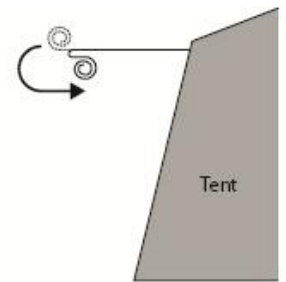

Fig. 2
- Once all guylines and webbing are away neatly, flip the already rolled section to the underside of the canopy roof and continue to roll (fig. 2).